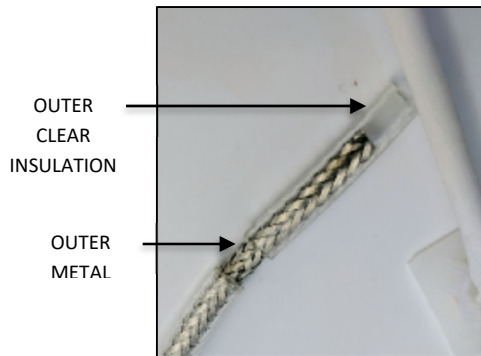
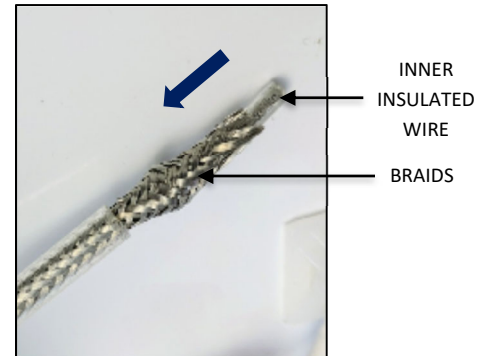

FIG. 27
FIG. 28
1. Strip off 1.00" of outer clear insulation exposing the outer metal braiding as shown in FIG. 27 below. **Be careful not to cut or damage the outer metal braiding.** Gently push braiding down to loosen the individual braids exposing the inner insulated wire as shown in FIG. 28 below.